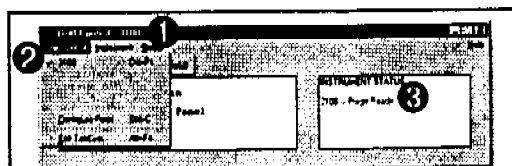

Figure 3.2.4.1:
4. To verify the name and status of the designated active unit, observe the Instrument Status window of the Control Screen (Figure 3.2.4.1); so that the name of the selected unit appears in the Control Screen title bar (1), a check mark appears next to the selected name in the Unit Control menu (2), and that the Instrument Status window displays status information for the active concentrator (3).